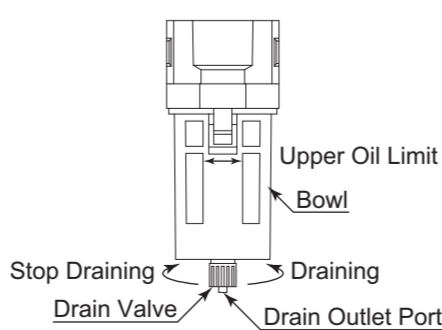

Fig. 20
- Draining from Air Filter (Fig. 20)